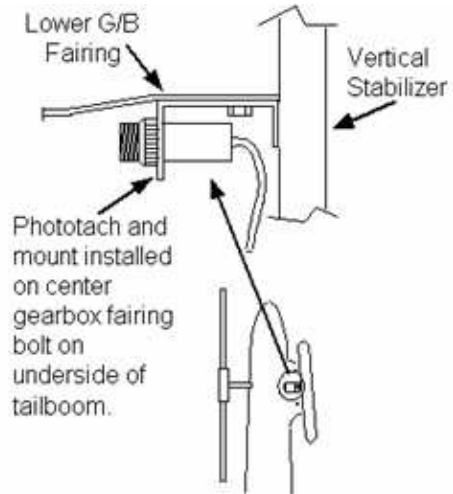

Figure 2
3. Install the Phototach (Item 3) into the Phototach Mount (Item 8) and attach to center gearbox fairing bolt under the tail boom where the lower fairing meets the vertical stabilizer. (Figure 2)